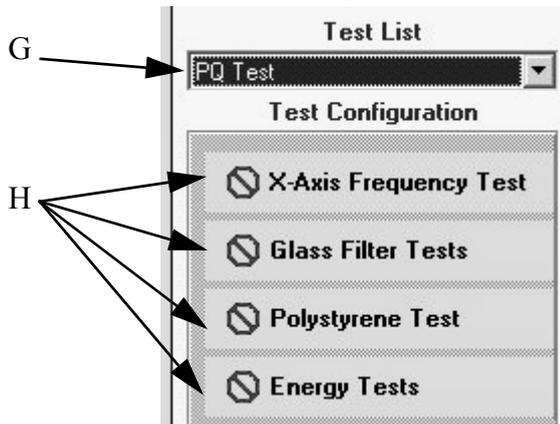

Figure 347: OVP Accessory Manager - Test configuration
- 17) Store the settings by clicking on the *Save Parms* button (U).
- 18) To generate the settings for the OQ test protocol select *OQ Test* from the *Test List* drop-down list (G in figure 347). The *Test Configuration* field will now show all OQ tests. Proceed for the OQ test protocol and follow the steps as described for the PQ tests.